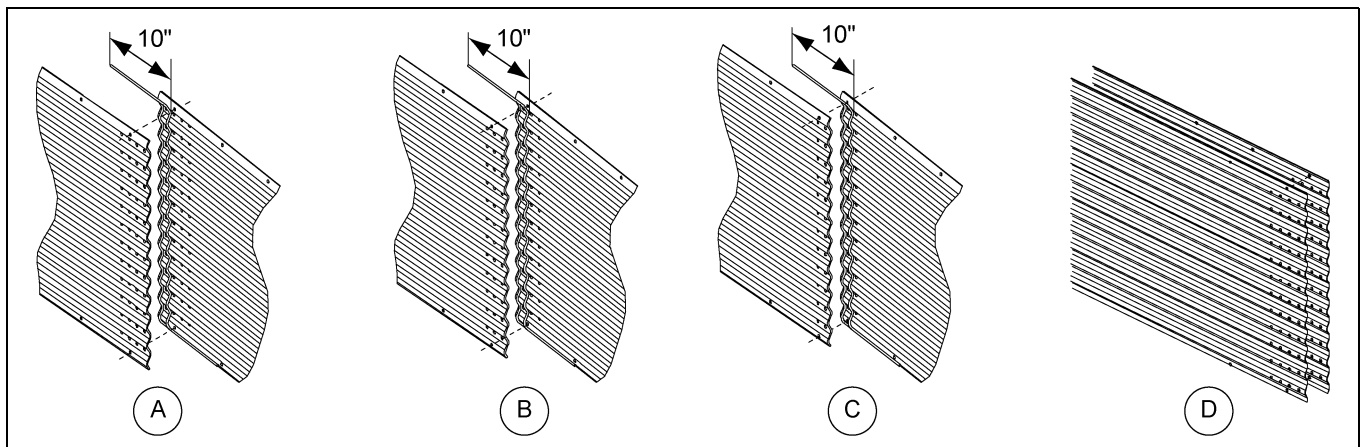

Figure 8C As Viewed from Inside of Bin (Externally stiffened reverse rolled sheets shown.)
Apply one strip of caulking near the outside edge of the outer sheet and between the outer two (2) rows of bolts, refer to Figure 8C. A strip of caulking 10" long, should be placed along the horizontal seams. Before bolting the next ring in place, apply one strip of caulking 10" long on the front of the underlapped sheet at each joint. Also, a 10" strip of caulking is to be placed along the lower horizontal edge of lapping sheet at every vertical seam. This will fill the space that occurs between the holes caused by the overlapped sheets. Additional 10" strips should be used to fill gaps that occur with heavier gauges.